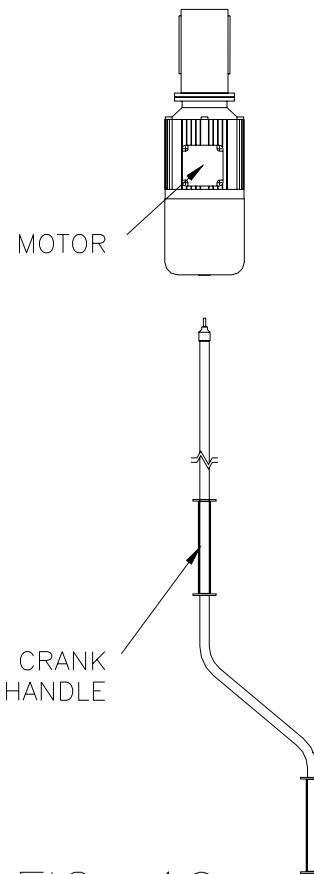

FIG. 10
- Insert Crank Handle into Socket at bottom of Motor (Figure 10).